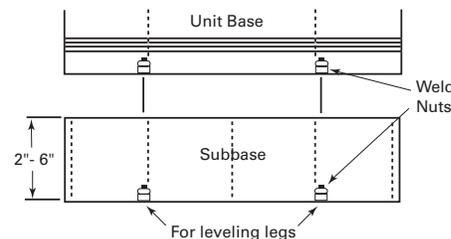

Figure 4: Subbase with leveling legs
- 1 Remove the leveling legs provided with the unit. See Figure 4.